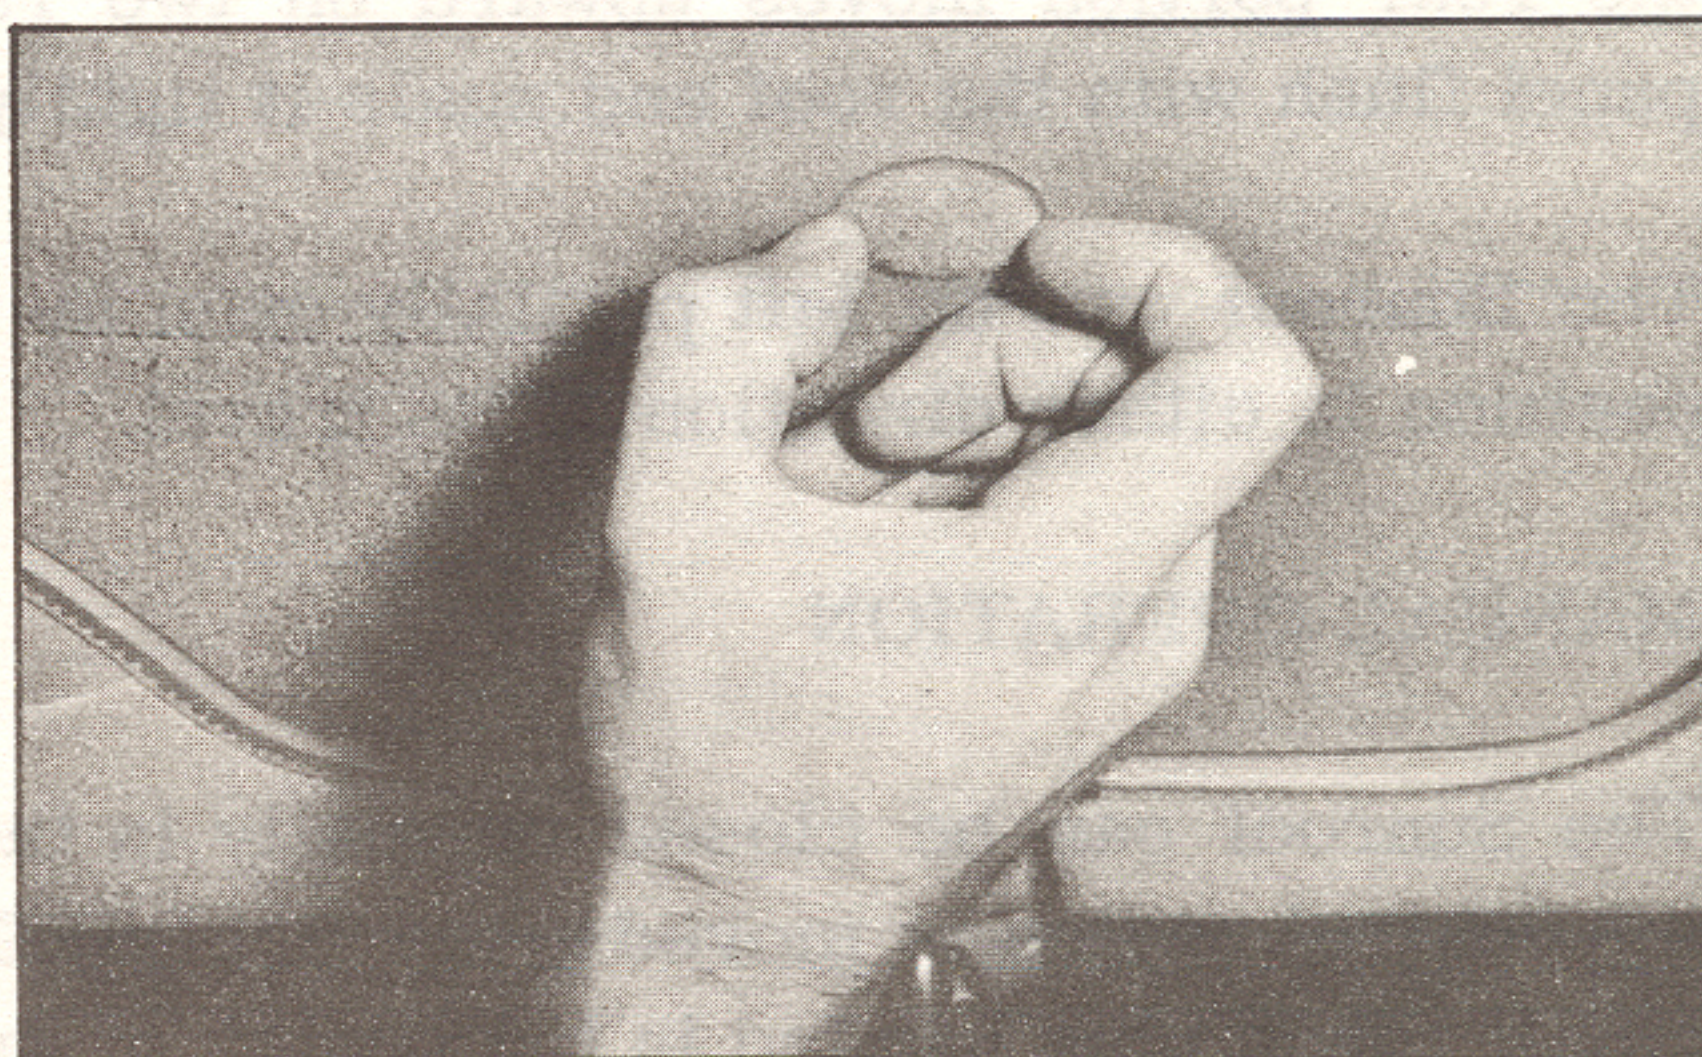

Fig. 4. Removing Winding Gear Access Plug
The Sunroof can be closed manually in the event it should fail to close when the control switch is moved to the "CLOSED" position. To do this, remove the small round plug located in the center of the headlining near the front edge of the roof opening to gain access to the winding gear. Remove the plug by grasping with fingers and pulling outward, Figure 4. Remove the screw, which is visible when the plug is removed.
(1) Remove winding gear access plug, Fig. 4.
(2) Unscrew slotted-head screw, and add another washer (shim) to those already in position.
(3) Replace screw and check operation.
(4) Tighten slotted-head screw securely.